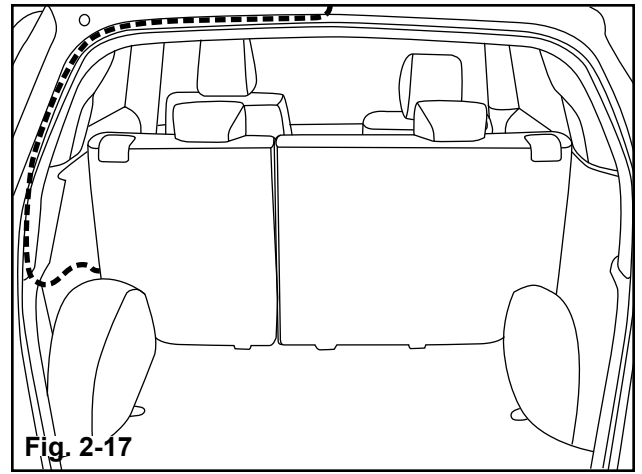

Fig. 2-17
- f) Use wire ties or foam tape where appropriate to ensure harness won't rattle. Secure harness away from pinch points, sharp edges, and trim panel clips. (Fig. 2-17)